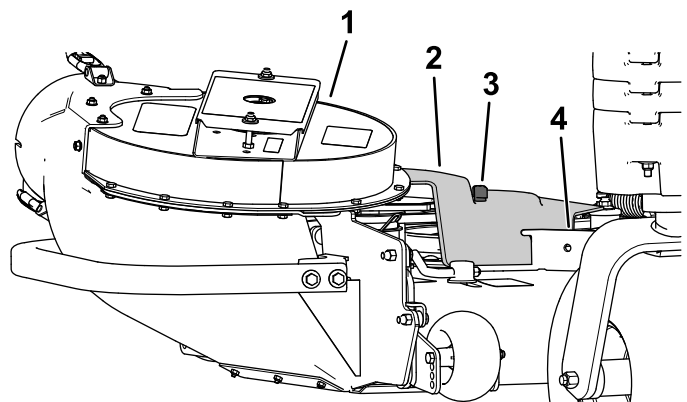

Figure 11
6. With the belt cover resting on the deck, slide it forward until it seats under both lips on the deck (Figure 11).
7. Secure the belt cover using the knob (Figure 11).